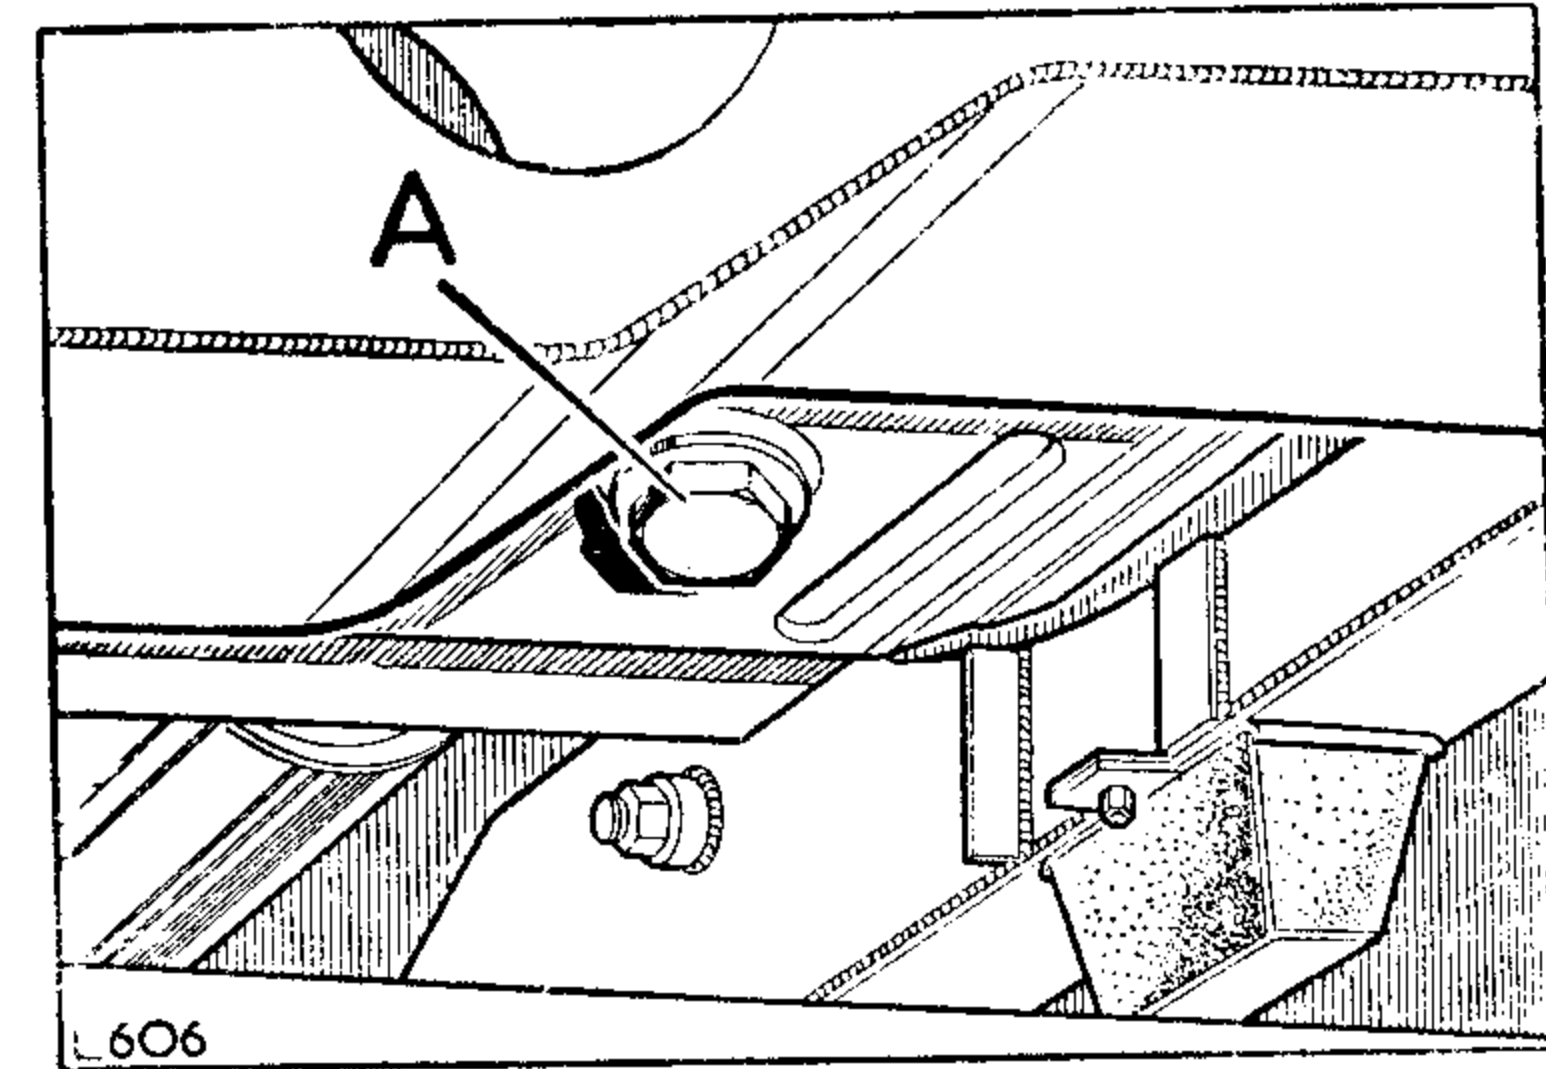
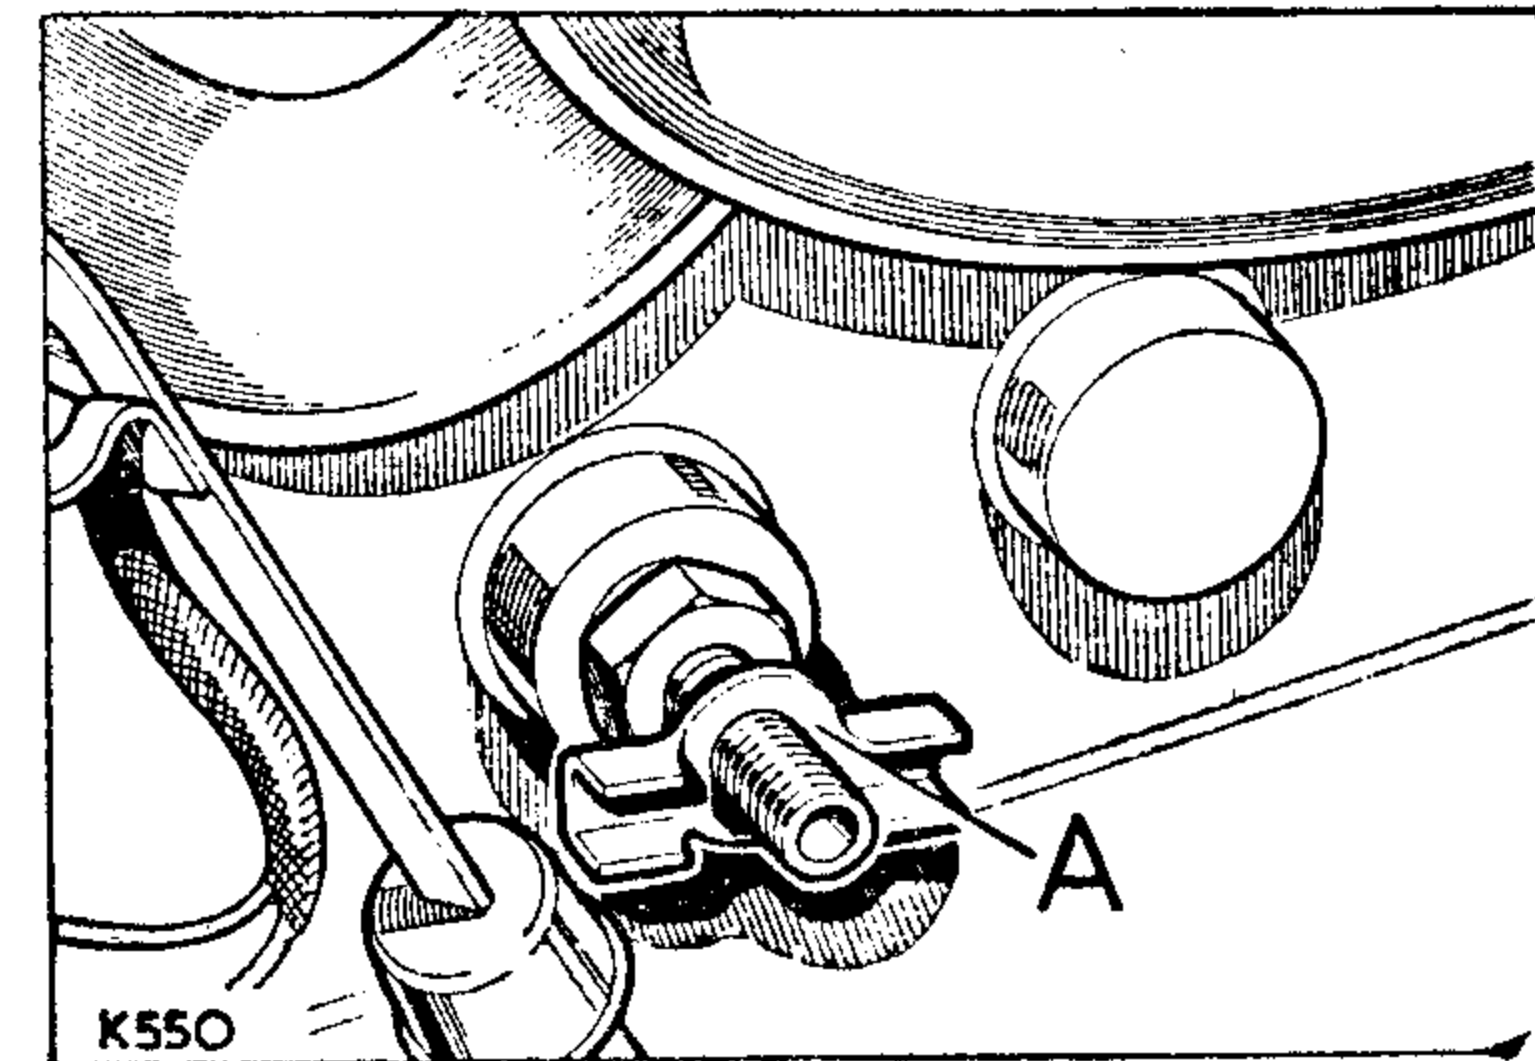

Fig. 34. Radiator drain plug
Fig. 35. Cylinder block drain tap
2. Drain and flush the system. Drain plug (A) Fig. 34 under radiator at left-hand side and drain tap (A) Fig. 35 for cylinder block 4-cylinder at left-hand side of engine adjacent to dipstick. 6-cylinder at right-hand side of engine adjacent to engine breather.